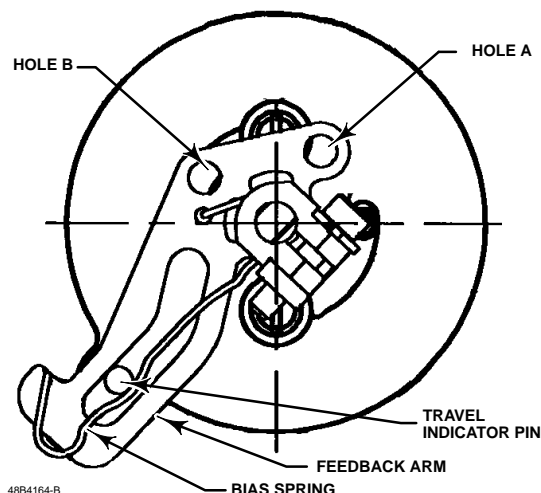

Figure 2-11. Positioning Travel Indicator Pin in the Feedback Arm (Viewed as if Looking from the FIELDVUE DVC6030 SIS toward the Actuator)
7. Position the digital valve controller so that the pin on the travel indicator engages the slot in the feedback arm and the bias spring loads the pin as shown in figure 2-11. Attach the digital valve controller to the actuator or positioner plate.
7. Position the remote feedback unit so that the pin on the travel indicator engages the slot in the feedback arm and the bias spring loads the pin as shown in figure 2-11. Attach the remote feedback unit to the actuator or positioner plate.